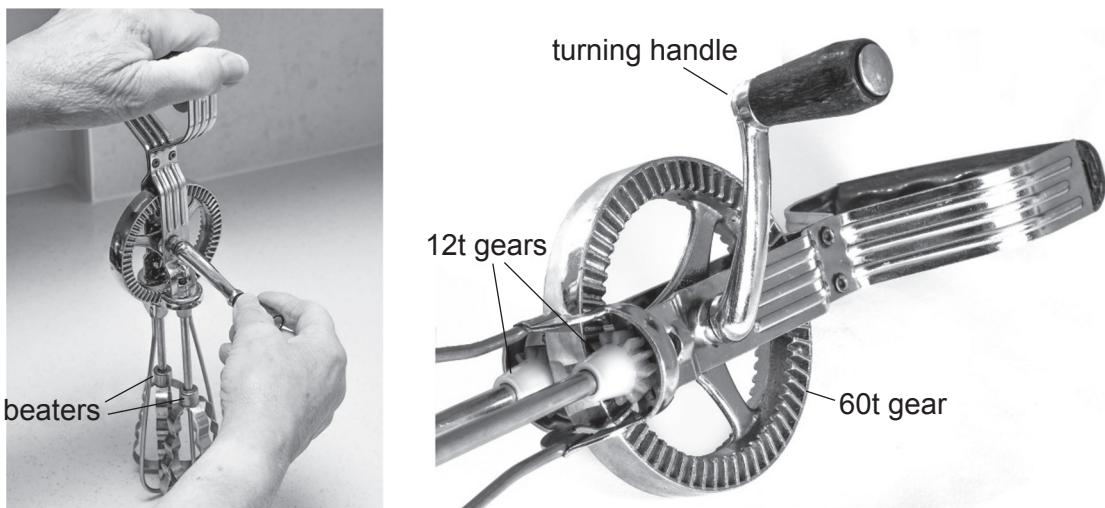

Fig. 11.1
- 11 Fig. 11.1 shows a hand-operated whisk.